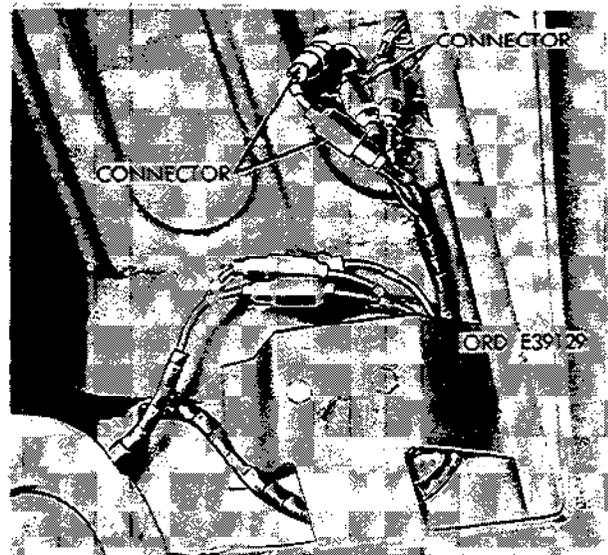

Figure 2-220. Pull connectors from receptacle.
a. Removal. Refer to figures 2-220 and 2-221.
- (1) Pull connectors from receptacle.
- (2) Remove screws, nuts, and lockwashers securing trailer electrical connector receptacle.
- (3) Remove trailer electrical connector receptacle.